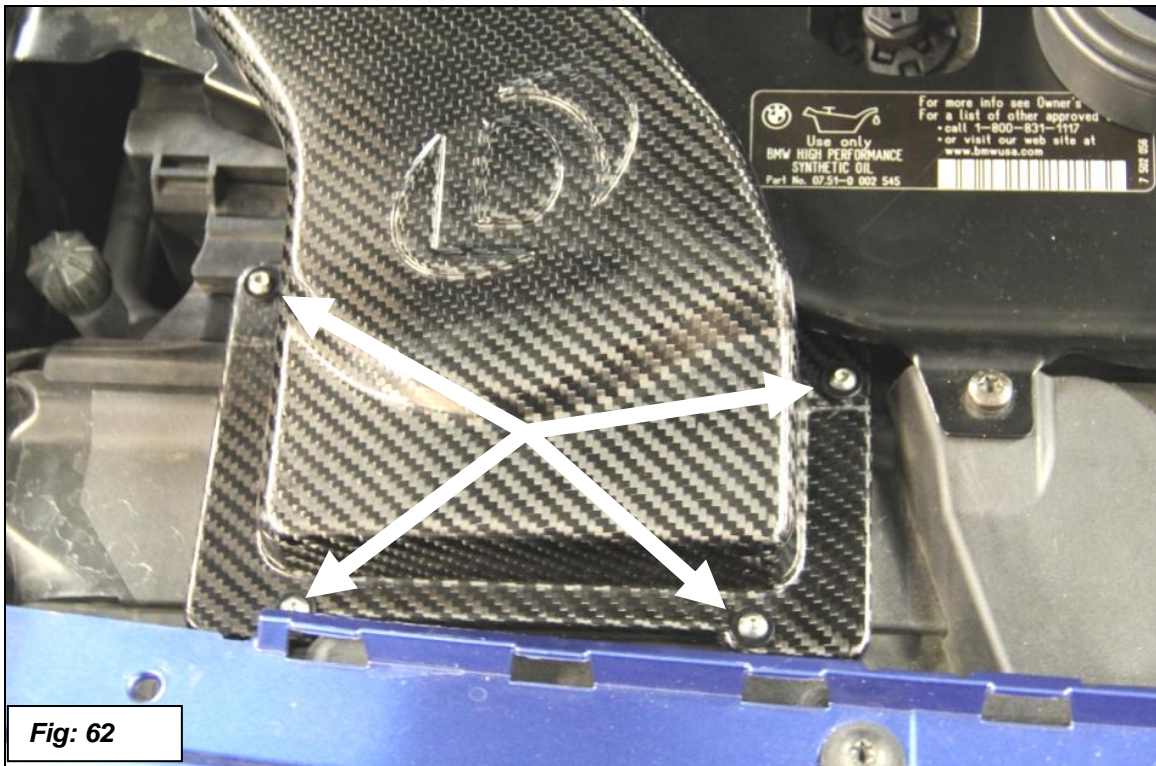

Fig: 62
41. With the air box completely installed insert the Dinan snorkel as shown in figure 60. Then slide the base toward the center of the car as shown in figure 61. Make sure the bolt pattern of the snorkel lines up with the base plate and install the four M4x7 button head screws with black washers. See figure 62.